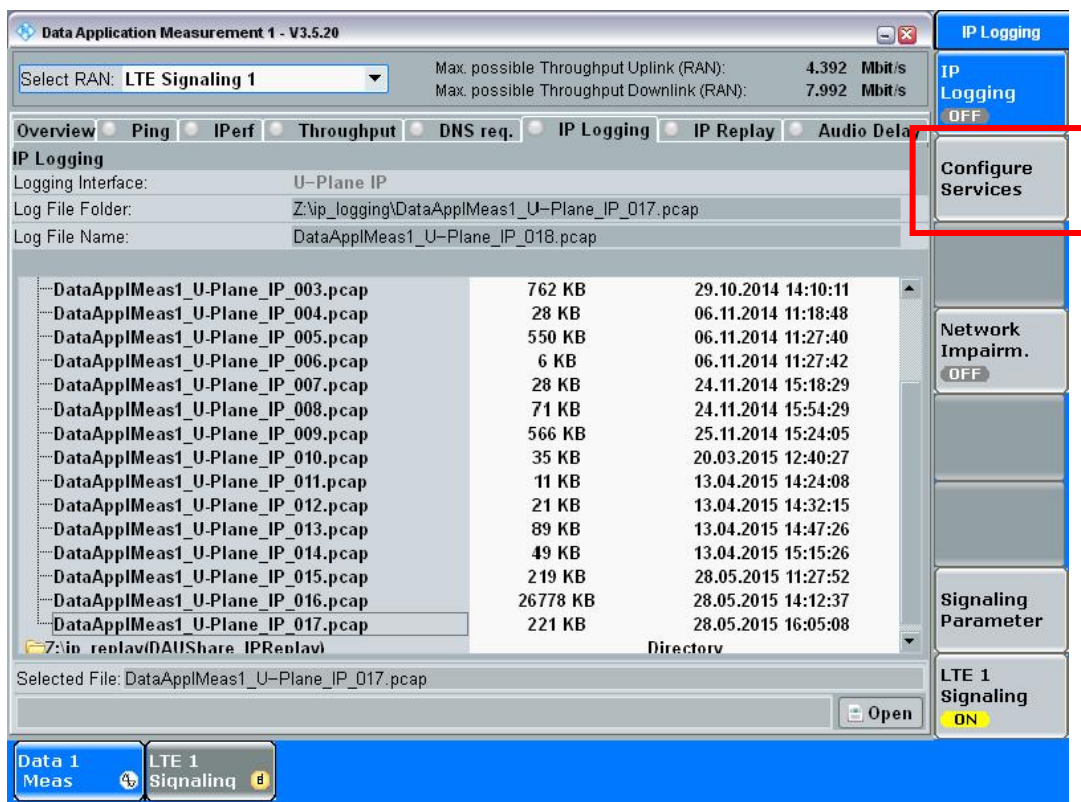

Figure 20: Configure Services
3. Select **Configure Services** (Figure 20).